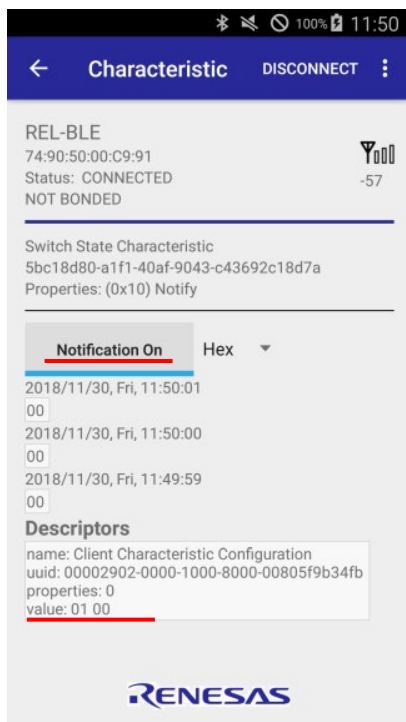

Figure 2
3. (Figure 2) Confirm that the button is "Notification" on "Characteristic" screen. When tap the button, the state of SW4 is transmitted at the Notification from the evaluation board. Confirm that "value" of "Descriptors" is "01 00" (Notification enable). (The value is little-endian, so the actual value is 0x0001)